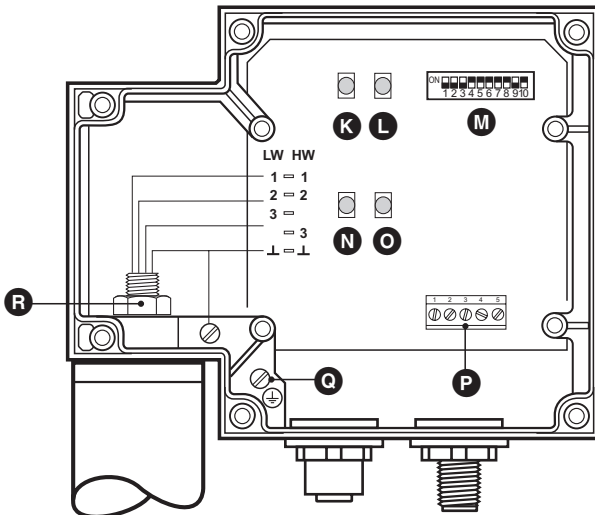

Fig. 9
2. Slacken plug  with 17 mm open-end spanner but do not remove. **Fig. 9**